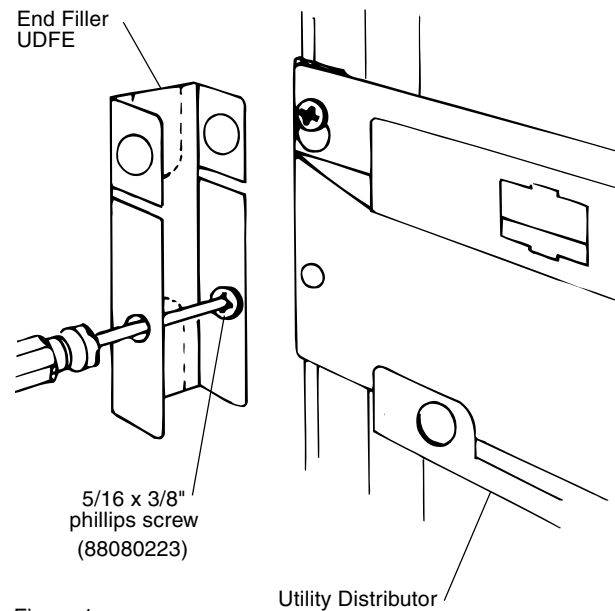

Figure 1
2. Holding screw with screw driver, align End Filler over the Utility Distributor's end with large hole at the top. Fasten Filler to the UD with the lowermost 5/16 x 3/8" phillips screw through the UD and into the hanger clip. (Figure 1)